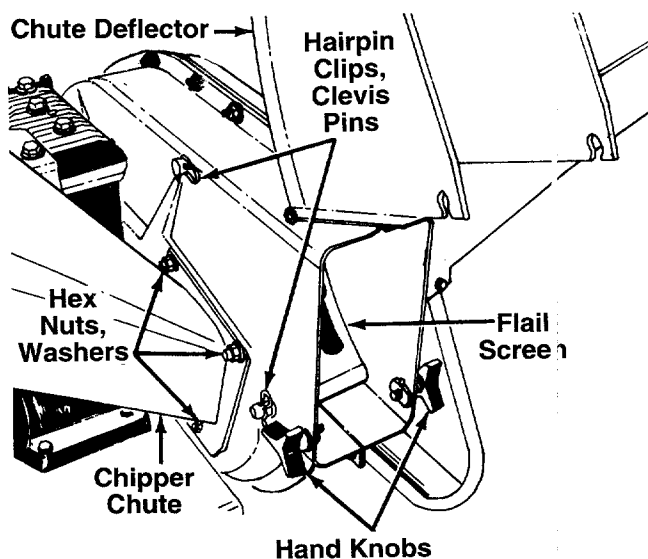

FIGURE 14.
3. Remove two hairpin clips from the clevis pins which extend through the housing. Remove the clevis pins. Lift the flail screen from inside the housing. See figure 14.
**NOTE:** Be certain to reassemble the flail screen with the curved side down as shown in figure 14.
3. Remove the chipper chute by removing three hex nuts and washers. A 1/2" wrench is required. See figure 14.